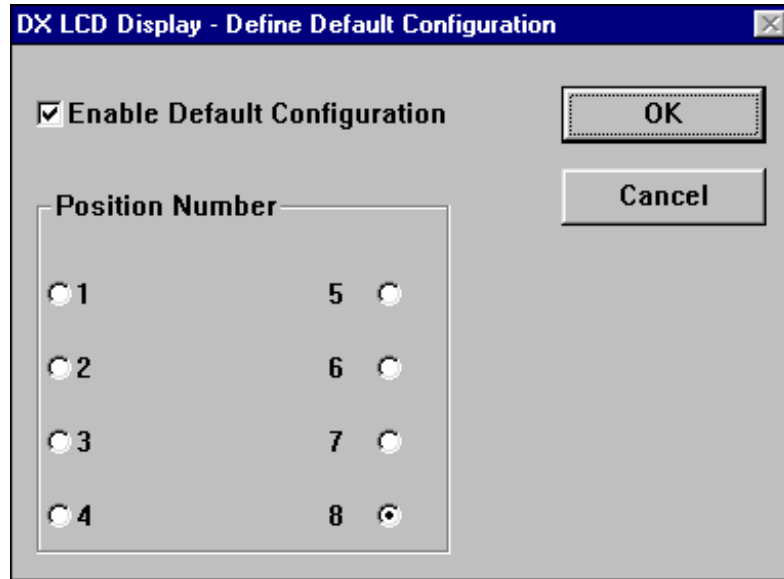

Figure 12-4: Define Default Configuration Dialog Box
1. On the DX LCD Display menu, click Define Default Configuration. The Define Default Configuration dialog box appears (Figure 12-4).